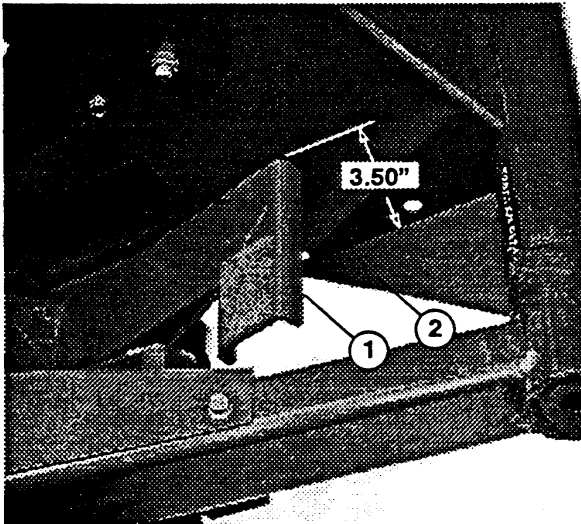

Figure 4
6. Press down on front of traction pedal and check travel. There should be approximately 3.50" clearance between end of pedal and floor plate when pedal in fully depressed (Fig. 4). Adjust pump control rod to attain dimension.